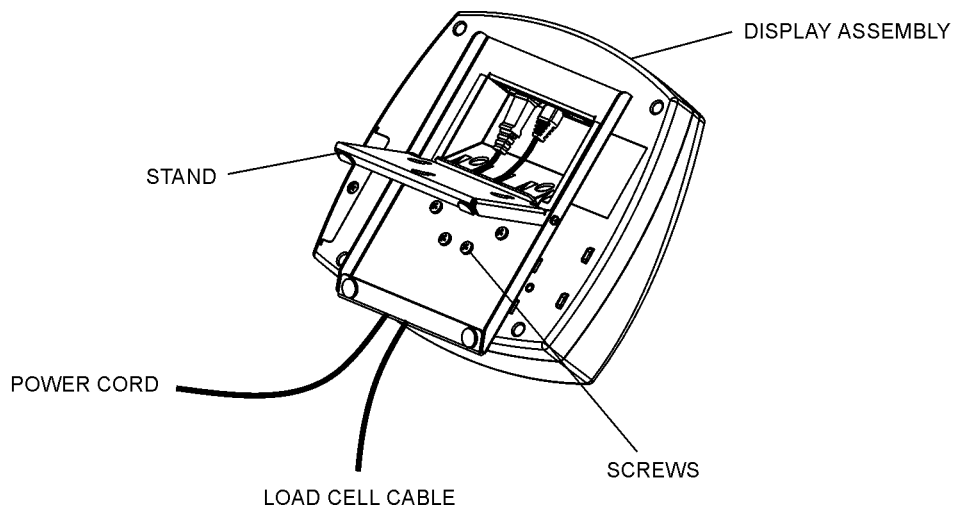

Figure 3.
10. Remove the stand at the rear of the display assembly by unscrewing 4 screws, in order to connect load cell cable and power cord to the display assembly (see Figure 3).